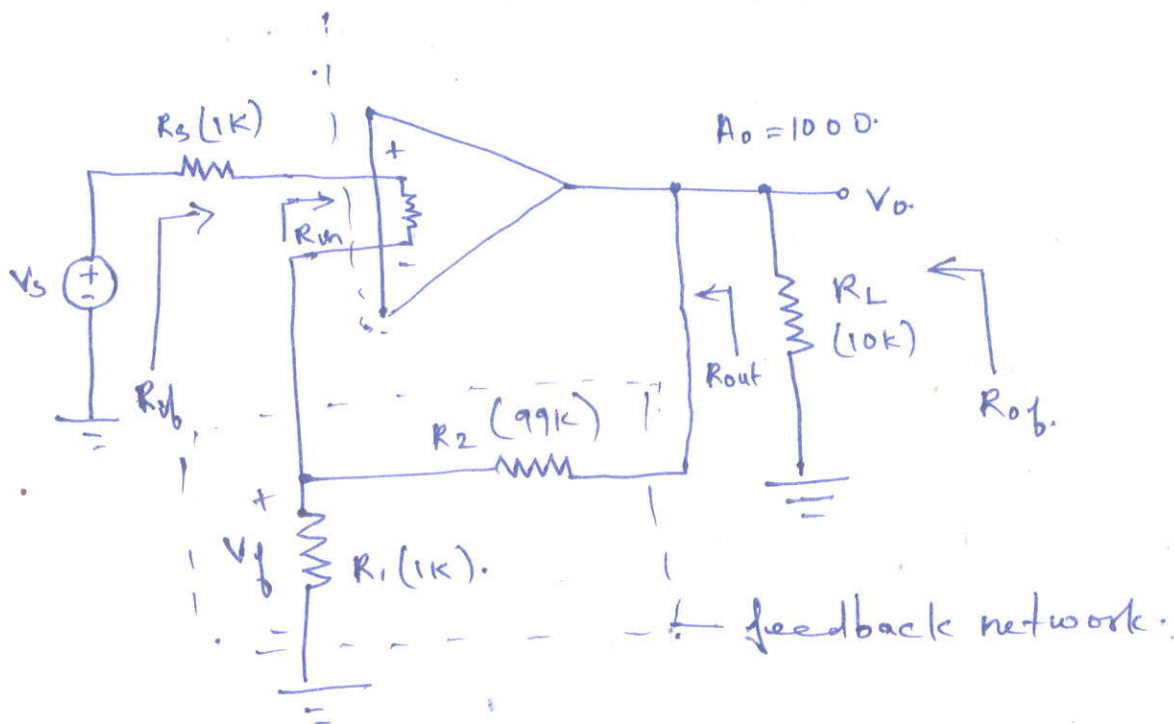

fig 0
- * Looking at fig 0 we can see that feedback signal V_f is subtracted from the externally applied signal V_s and hence it is a series mixing. Combining two